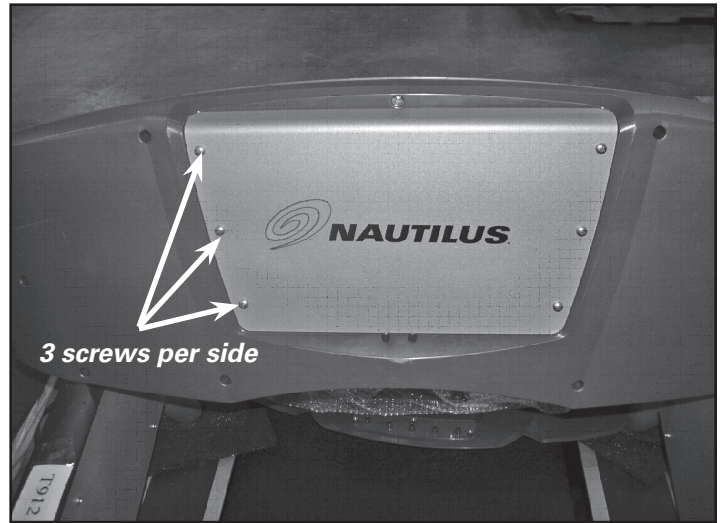
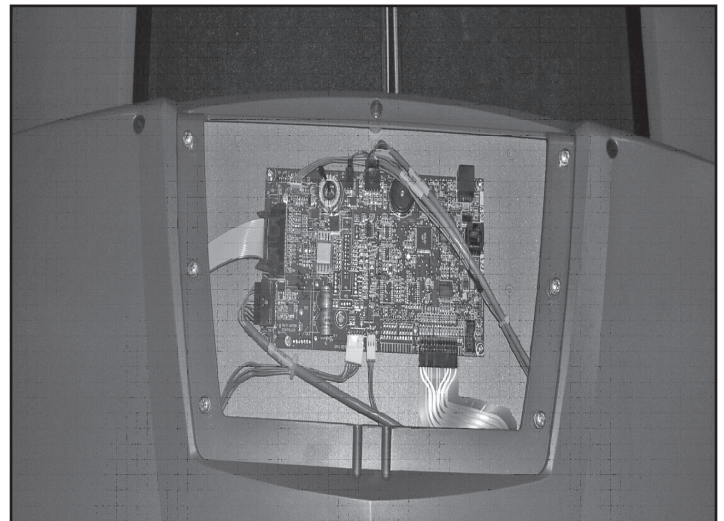

Figure 2-1
Figure 2-2:
2-2: Remove six (6) screws (P/N - SM41271) from back side of console to remove cover and gain access for programming (see Figure 2-1 and Figure 2-2).